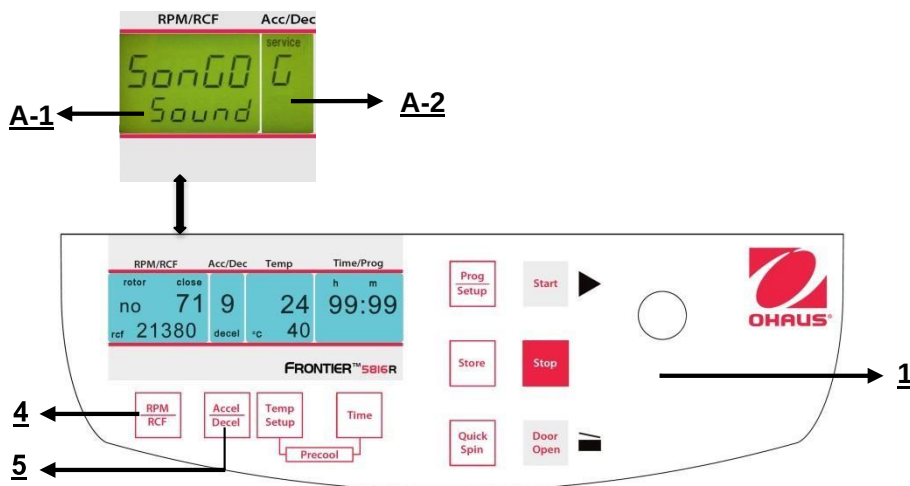

Figure. 37
Proceed as described under point 4.1.1 to enter this program mode and then press the key "**Accel/Decel**" (5). In the display "**Acc/Dec**" (A-2) the word "**Service**" flashes. Now select the letter "**G**". with the adjusting knob (1). As a result, in the display "**RPM | RCF**" (A-1), the word "**SonGo/Sound**" appears. After pressing the key "**RPM | RCF**" (4), you can select a song with the adjusting knob (1). (See figure 37).